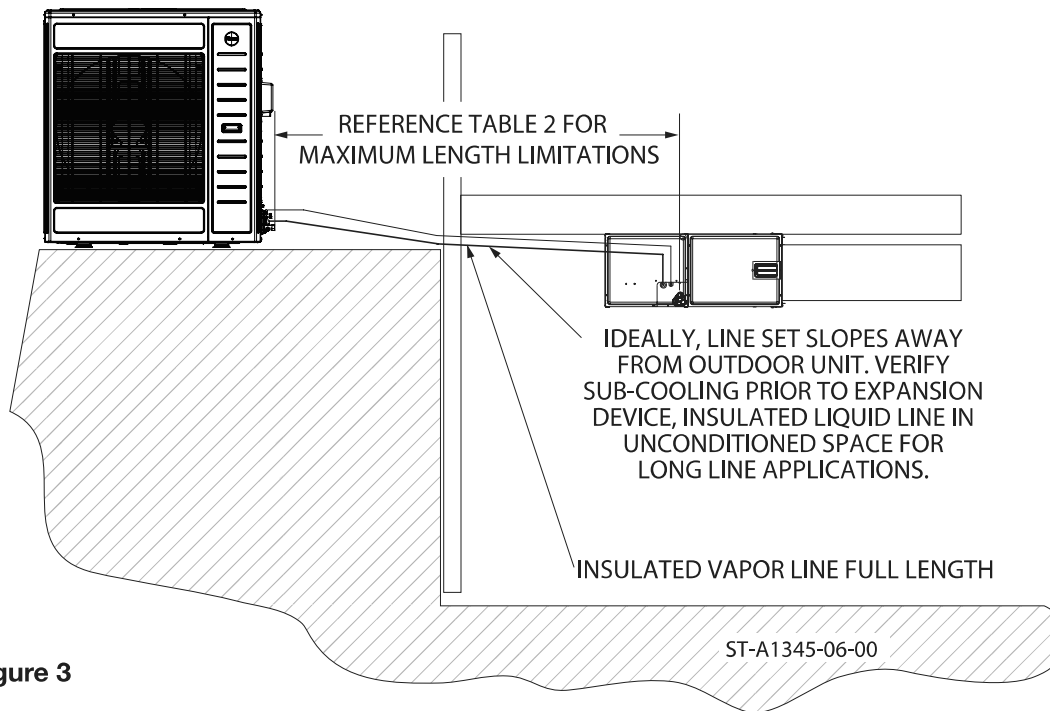

Figure 3
- Vapor line should slope toward the indoor unit. (Reference Figure 3)